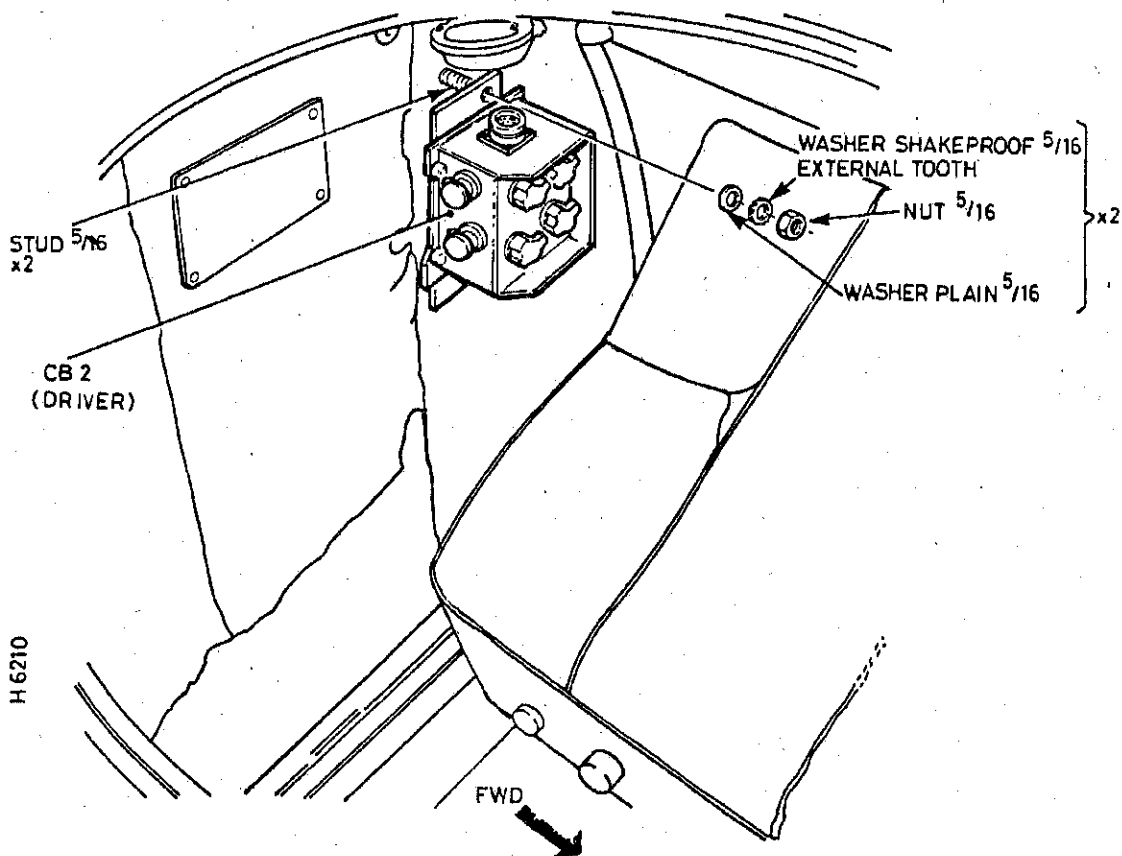

Fig 2 CB2 mounting (driver)
14 Two CB2s (7) are fitted, one for the driver and one for the operator as shown in Figs 2 and 3 respectively.